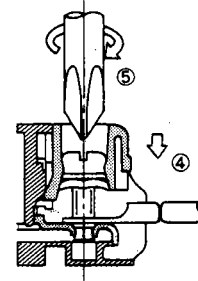

Fig. 3
4. Lower the screw holder. (Insert the end of the screw, and temporarily fix.)(Fig. 3)